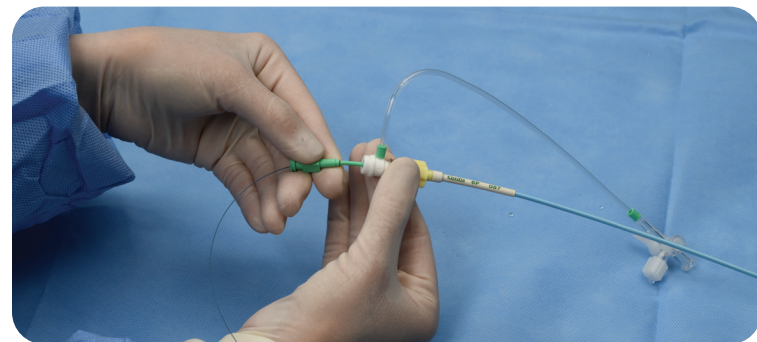

Figure 5
- D. Once in position, remove the dilator and guidewire from guide sheath by releasing the snap fit at the hemostasis valve hub and carefully withdraw dilator and guidewire while maintaining the position of the guide sheath. (Figure 5)